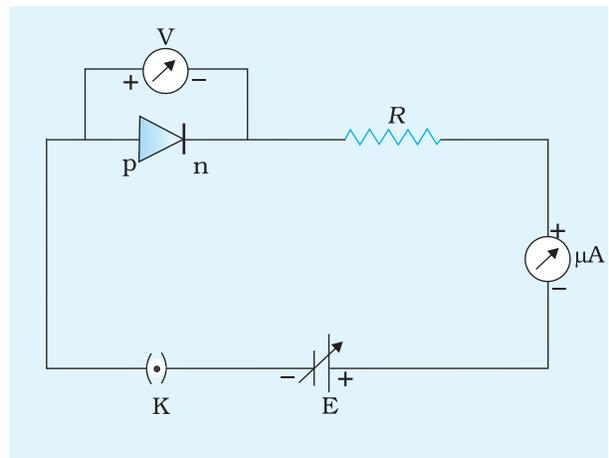

Fig. E 16.2 Reverse biasing for a p-n junction diode
8. Now disconnect the circuit and make the connections as shown in Fig. E 16.2 for the reverse bias characteristics. Connect p-side of p-n junction diode to the